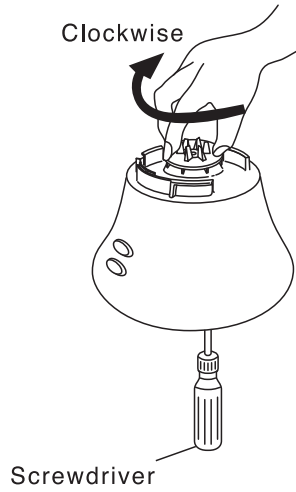

Fig. 3
5.2. Connector(Lower) -Fig.3
1. Remove the bottom plate and Body U. (Fig.3)